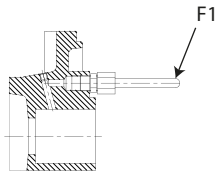

Figure 5
- Cooling, sealing and flushing of seal piping must be connected only to the designated connections located on the pump (**Figure 5,6**).